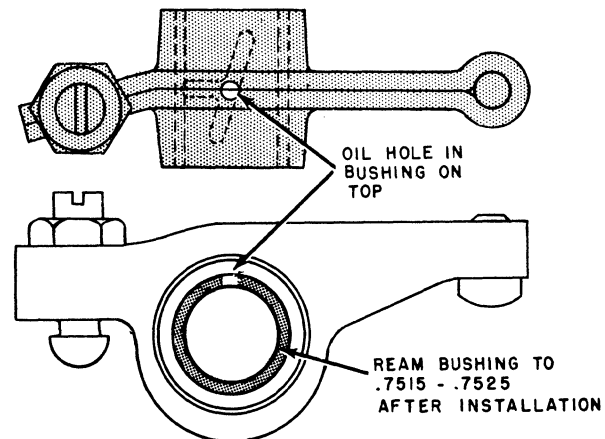

Figure 5 - Bushing Oil Hole
4. When installing new bushings in the rocker arms, make certain the oil hole in the bushing is in the top position as shown in Figure 5. After replacing bushing, ream to .7525 inches.